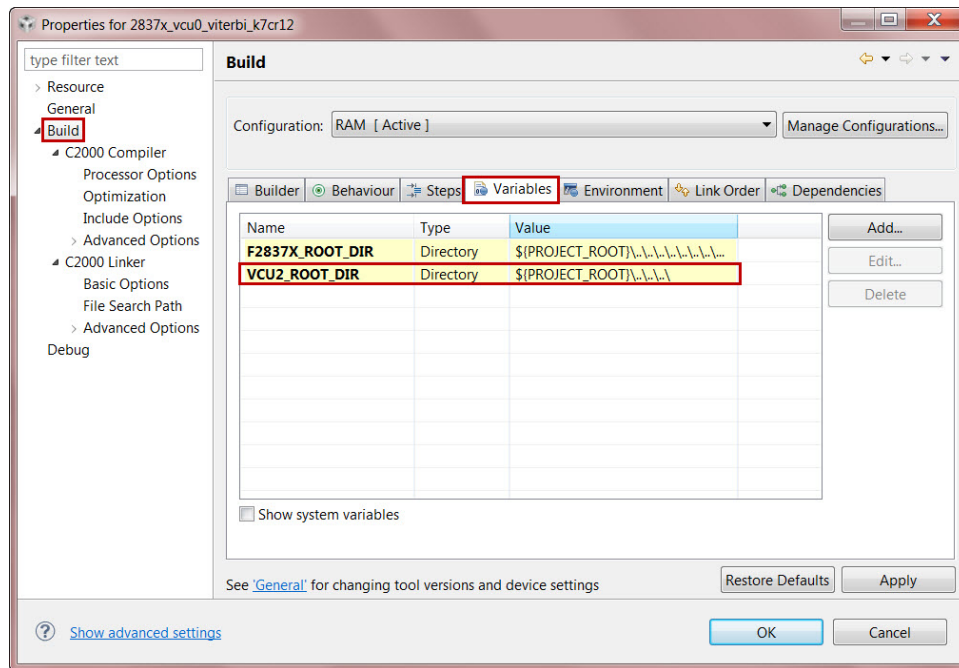

Figure 4.3: Creating a new build variable
1. Go to the **Project Properties->Build->Variables(Tab)** and add a new variable (see Fig. 4.3), **VCU2\_ROOT\_DIR**, and point it to the root directory of the VCU library in **C2000Ware**.